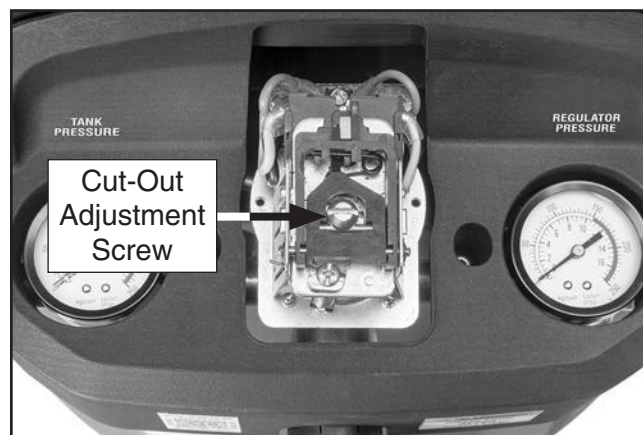

Figure 33. Location of cut-out only adjustment screw.
5. Adjust screw shown in **Figure 33** to change maximum tank pressure setting.